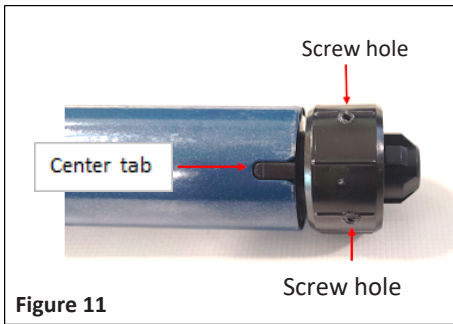

Figure 11
17. Slide the black plastic bushing onto the end of the replacement motor, taking care to align the two small screw holes as shown in **Figure 11**.